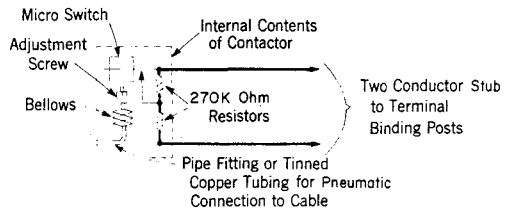

Fig. 3—Schematic of L or M Pressure Contactor With Dual Resistors
2.04 On present contactors, identified by a yellow tape marker on the stub adjacent to the housing, the resistance network consists of two 270K-ohm resistors connected in series, as shown in Fig. 3, and arranged so that: